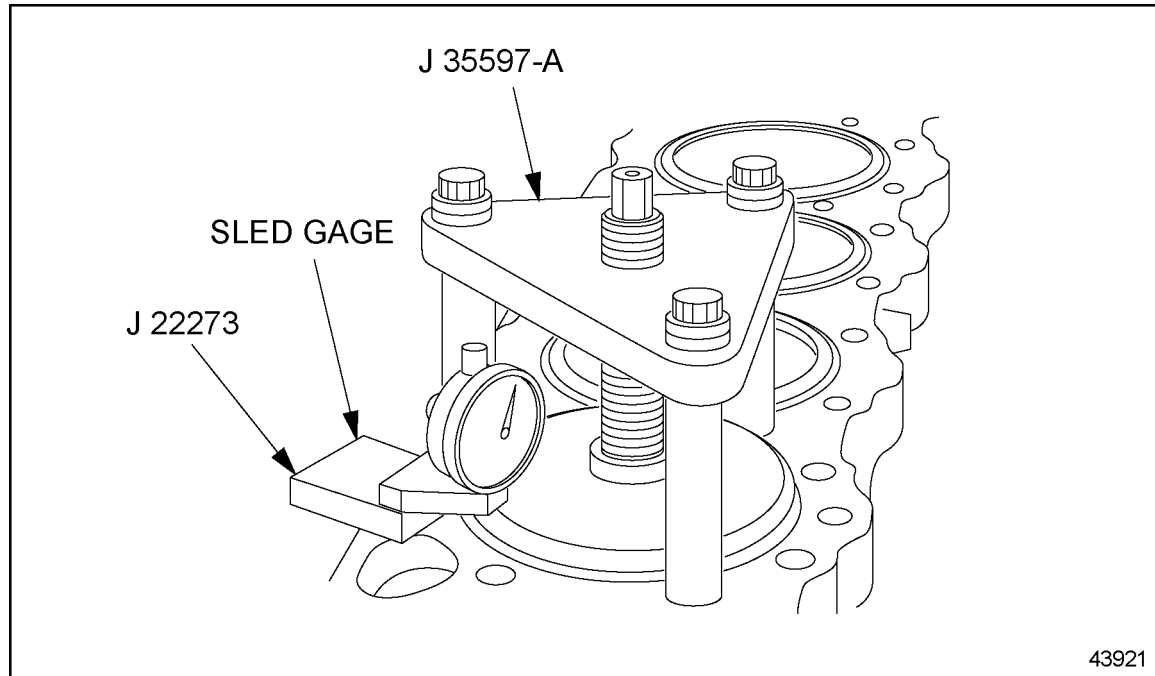

Figure 1-318 **Cylinder Liner Instalation Tools**
5. Install J 35597-A, over the liner to be installed. See Figure 1-318.